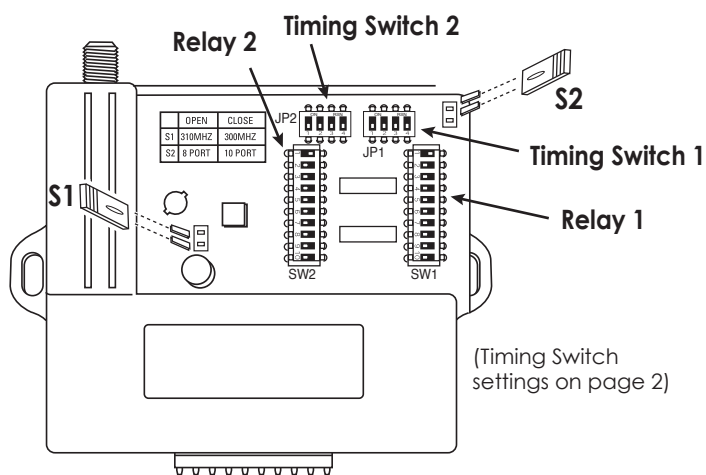

Fig. 2
Step 2. You can now see the jumper and dip switches. See Fig. 2
Step 4. Determine the operating frequency you will use on your installation. The Transmitter Solutions Hive receiver can operate at either 300 MHz or 310 MHz. At 300 MHz the hive receiver is compatible with all MultiCode transmitters with 10 dip switches operating at 300 MHz. At 310 MHz the Hive receiver is compatible with all Linear transmitters with 8 dip switches and Stanley transmitters with 10 dip switches operating at 310 MHz. See Fig. 2.
Step 5. Set the dip switches to the desired settings to match your transmitters SW1 controls Relay 1 and SW2 controls Relay 2. Refer to Fig. 2.